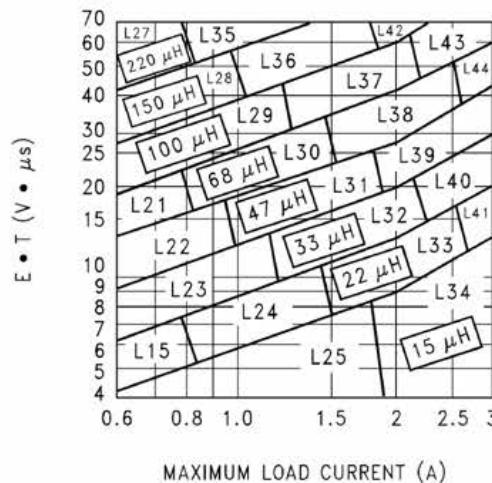

Figure 24. LM2596-ADJ
<p>2. Inductor Selection (L1)</p> <p>A. Calculate the inductor Volt • microsecond constant E • T (V • μs), from the following formula:</p> $E \cdot T = (V_{IN} - V_{OUT} - V_{SAT}) \cdot \frac{V_{OUT} + V_D}{V_{IN} - V_{SAT} + V_D} \cdot \frac{1000}{150 \text{ kHz}} (\text{V} \cdot \mu\text{s})$ <p>where</p> <ul style="list-style-type: none"> • V_{SAT} = internal switch saturation voltage = 1.16V • V_D = diode forward voltage drop = 0.5V (4) <p>B. Use the E • T value from the previous formula and match it with the E • T number on the vertical axis of the Inductor Value Selection Guide shown in Figure 24.</p> <p>C. on the horizontal axis, select the maximum load current.</p> <p>D. Identify the inductance region intersected by the E • T value and the Maximum Load Current value. Each region is identified by an inductance value and an inductor code (LXX).</p> <p>E. Select an appropriate inductor from the four manufacturer's part numbers listed in Table 3.</p>	<p>2. Inductor Selection (L1)</p> <p>A. Calculate the inductor Volt • microsecond constant (E • T),</p> $E \cdot T = (28 - 20 - 1.16) \cdot \frac{20 + 0.5}{28 - 1.16 + 0.5} \cdot \frac{1000}{150} (\text{V} \cdot \mu\text{s})$ $E \cdot T = (6.84) \cdot \frac{20.5}{27.34} \cdot 6.67 (\text{V} \cdot \mu\text{s}) = 34.2 (\text{V} \cdot \mu\text{s}) \quad (5)$ <p>B. $E \cdot T = 34.2 (\text{V} \cdot \mu\text{s})$</p> <p>C. $I_{LOAD(max)} = 3\text{A}$</p> <p>D. From the inductor value selection guide shown in Figure 24, the inductance region intersected by the 34 ($\text{V} \cdot \mu\text{s}$) horizontal line and the 3A vertical line is 47 μH, and the inductor code is L39.</p> <p>E. From the table in Table 3, locate line L39, and select an inductor part number from the list of manufacturers part numbers.</p>